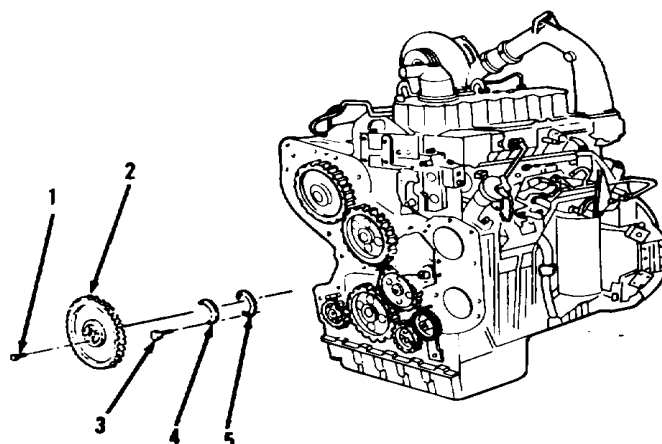
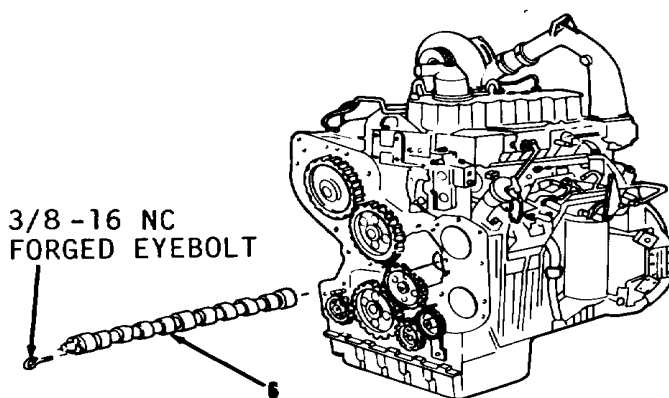

Figure 13-53.
Figure 13-54.
4. Remove four bolts (1) from camshaft gear (2, Figure 13-53).
5. Remove camshaft gear (2).
6. Bend two locks (4) away from bolts (3).
7. Remove two bolts (3), locks (4) and thrust plates (5).
8. Install 3/8-16NC forged eyebolt in end of camshaft (6, Figure 13-54).
- Install 3/8-16NC forged eyebolt on end of camshaft (6, Figure 13-54).
7. Install two locks (4).
8. Install two bolts (3).
9. Turn camshaft (6, Figure 13-54) so end notch is up.